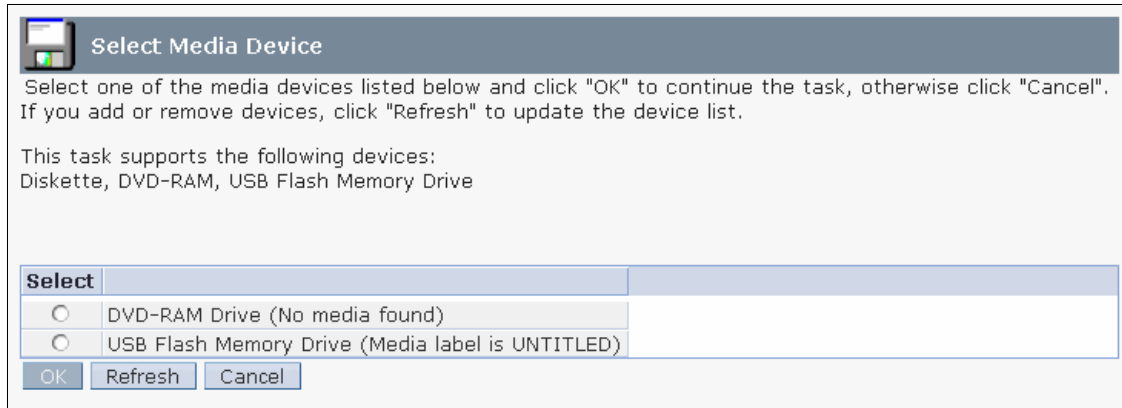

Figure 6-16 Service Management: Format Media
1. Select **Format Media**. The window that is shown in Figure 6-16 opens.